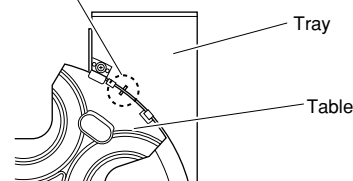

Fig. B-2
- Install the table by aligning it to the thick line on "/" mark. (Fig. B-2)